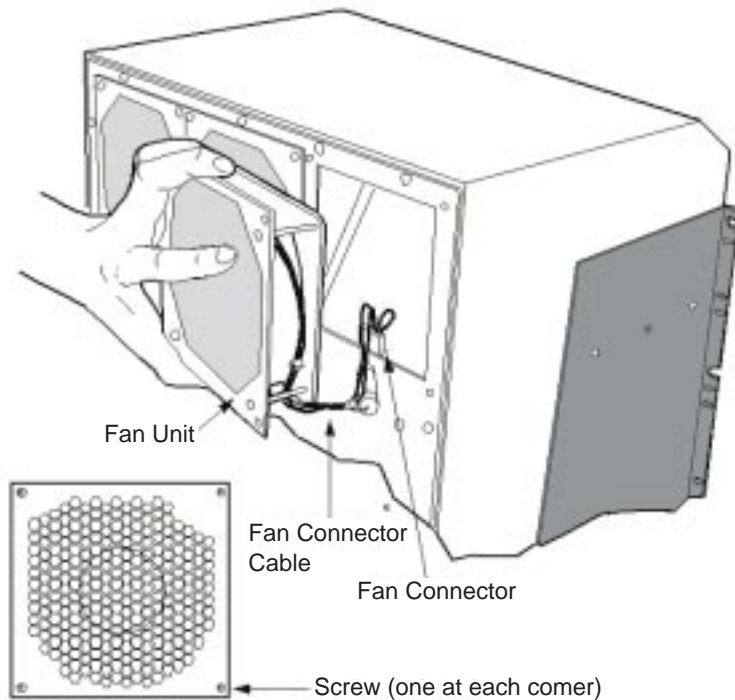

Figure 4-3. Replacing a Defective Fan Unit
- 2 Carefully pull the fan unit straight out from the 8265 fan bay and, before completely removing the fan, grasp the four-position fan connector cable and disconnect it from the 8265 (see Figure 4-3).